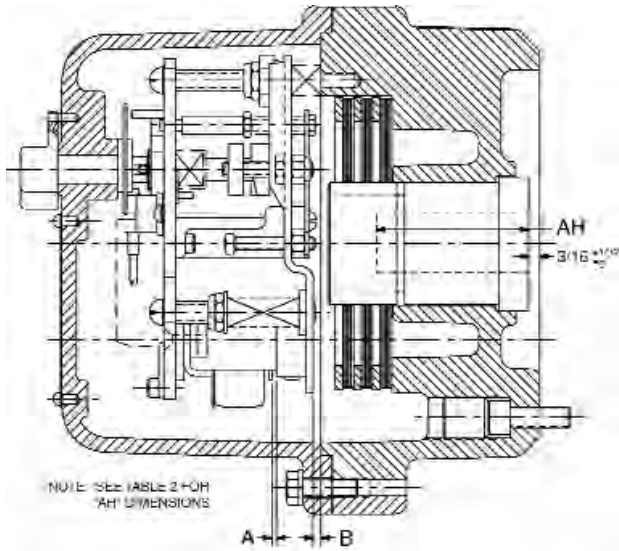

Figure 5. 60 Series H.L. Brake
1. Remove hub (6) from brake and mount hub with key (not supplied by Dings) on motor shaft per dimension shown in Figure 5. Be sure that hub used is item supplied by Dings for hazardous location applications. Tighten both set screws to 8-10 lb. ft. torque.
2. Cast Iron Enclosure: Remove four cover bolts (42A) and lockwashers (43) and remove cover (38A).
WEAR ADJUSTMENT (See Figures 5 & 7)
(See Figures 5 & 7)